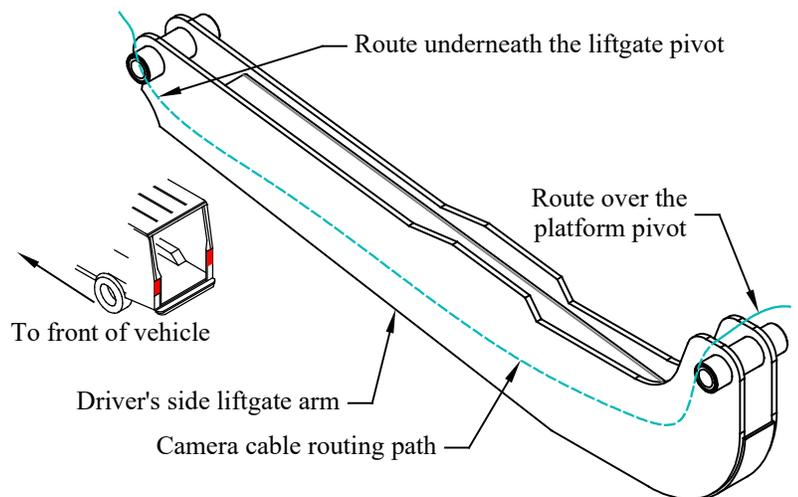

Figure 5: Routing the camera cable.
4. **Route** the remainder underneath the hinge on the other end of the liftgate arm. (Figure 5)